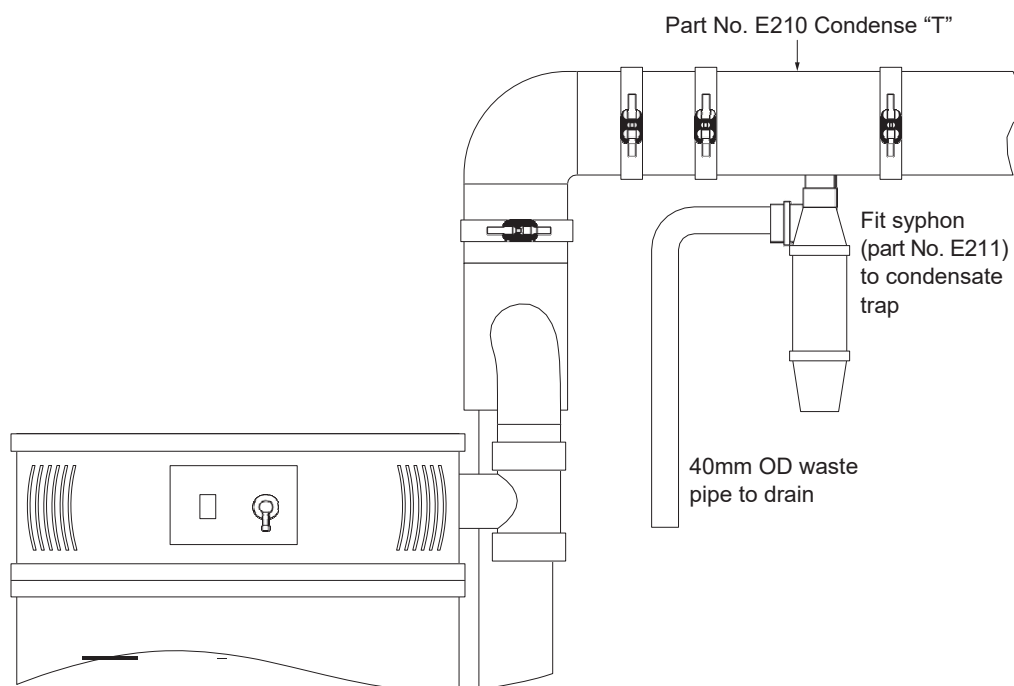

Fig. 15
i) Condensate disposal: Connect syphon (part no. E211) to the 32mm slip joint condensate trap connector and install 40mm OD waste pipe suitable drain, (see fig.15)..